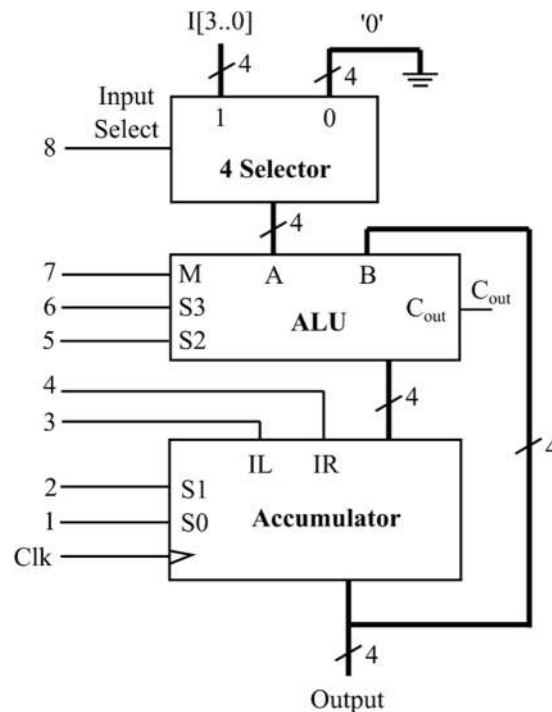
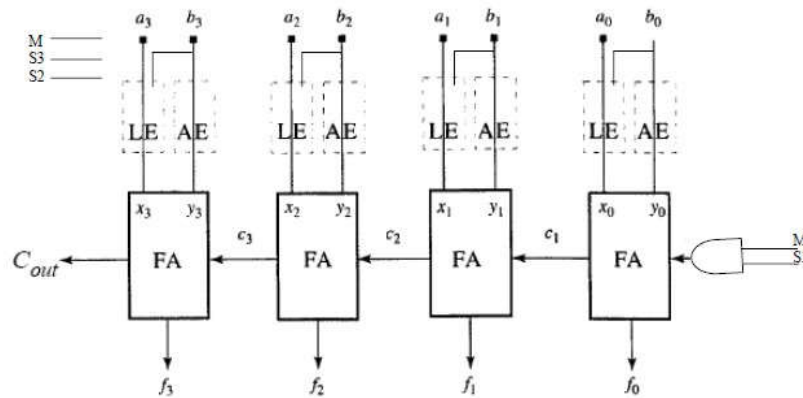
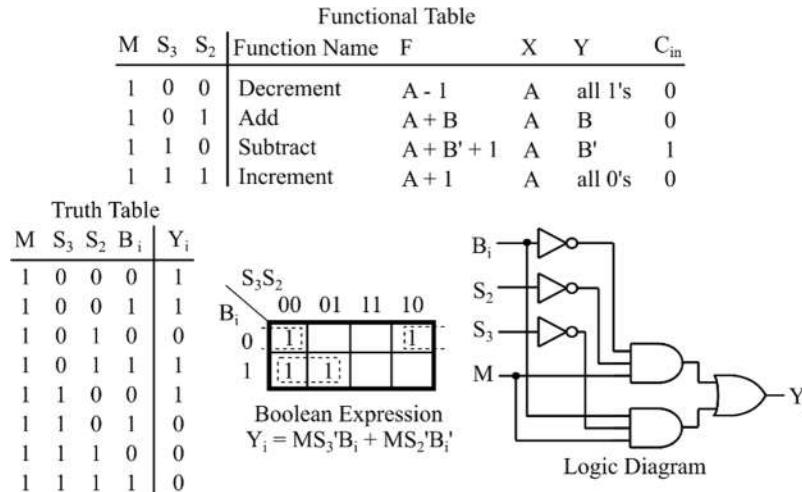
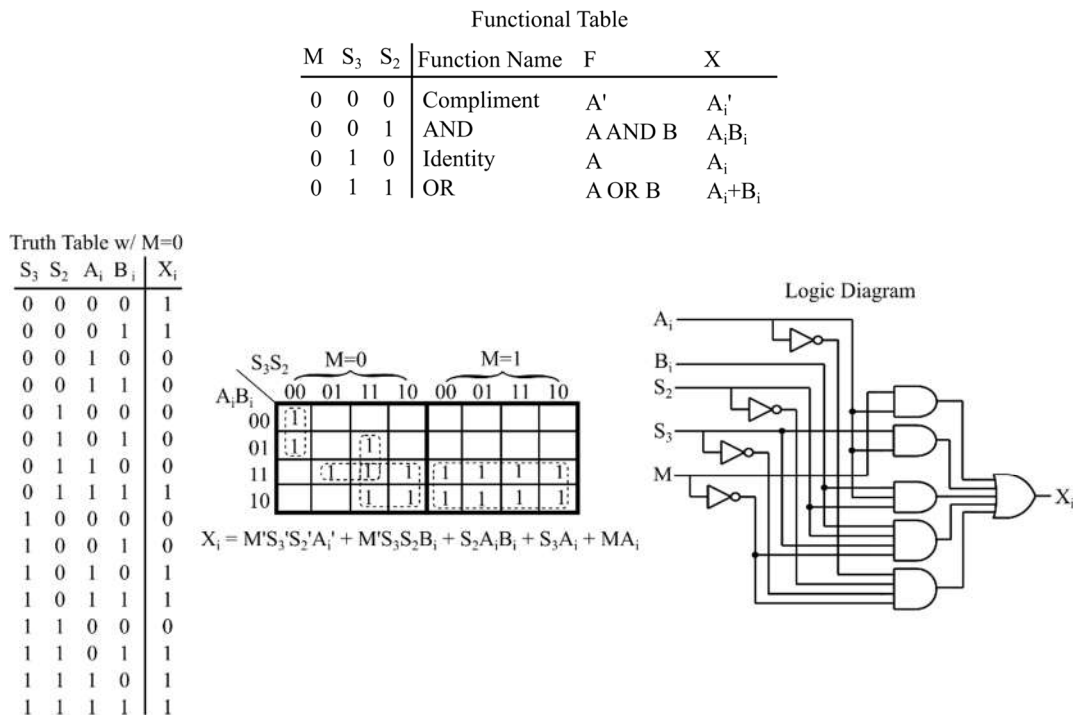

Figure 1: Top-level of registered ALU.
Figure 4. An arithmetic logic unit (ALU).
Figure 5: Arithmetic Extender (AE).
Figure 6: Logic Extender (LE).
For this lab, you will build a fully-functional registered ALU, like the one shown in Figure 1. This ALU performs a variety of mathematic operations on inputs and stores all results in a local register, the accumulator. Mathematic operations are always performed using the value in the accumulator as one operand and the "input" value as the other operand. The operations performed by the ALU will depend on the state of the control bits, (the bits labeled 1-8 in Figure 1). For the ALU discussed here, the control bits will allow the user to (see Figure 5, 6, and 7):
The specific operations that are implemented by an ALU depend on the functions required by the designer. Figures 4 through 6 show one possible design of an ALU, which extends the capabilities of a ripple carry adder by adding a little extra logic at the inputs. The logic is set up such that if the control input M is '1', the ALU performs a math operation (add, subtract, increment, decrement), and if M is '0', the ALU performs a logic operation (AND, OR, complement, or no-change).
An ALU performs many arithmetic operations, including add, subtract, increment, and decrement. This ALU is constructed from a ripple carry adder and some additional logic that modifies the inputs to the adder. Inputs are modified using a Logic Extender (LE), an Arithmetic Extender (AE), and some carry-in logic. The logic block FA stands for Full Adder and is a single-bit adder like you used in the 4-bit ripple-adder in an earlier lab. Let's say you wanted to extend the functions of this adder as shown in Figure 5 (assuming A and B are inputs to the ALU, and X and Y are inputs to the 4-bit adder), adding logic to allow it to decrement the value of input A by 1, to add inputs A and B, to subtract input B from input A, and to increment the value of input A by 1.
The Functional Table in Figure 5 shows what values would have to be given at inputs X and Y of the adder to allow it to produce the desired result. For example, $A-B=A+B'+1$ for 2's complement numbers, where B' is the one's complement of B. So if we wanted to subtract B from A when, we would need to present the 4-bit adder the A, B', and a C_{in} of 1 (giving A). The problem is to put together logic which allows the 1's complement of B (B') to be presented at input Y when the control bits. The logic needed to modify a single bit of B and present an appropriate value to the added (Y) is shown in Figure 5. This logic modifies B depending on the value of S3S2 to Decrement A, Add A+B, Subtract A-B, and Increment A.
The logic in Figure 5 makes up the Arithmetic Extender (AE) shown in Figure 4 – the little bit of extra logic added between the input B to the ALU and the input Y to the adder. Similar operations must be performed on the input A using what is called a Logic Extender (LE – Figure 4). Logic for the Logic Extender is shown in Figure 6. It allows you to perform the logic operations.
The one bit of logic we haven't given you is the logic needed to modify C_{in} (Figure 4). Note that the Functional Table in Figure 5 shows that specific values of C_{in} must be presented to the
In summary, a registered ALU consists of an arithmetic logic unit and an accumulator (Figure 1). The input to the ALU comes from and external bus (A) and the accumulator (B). Our ALU can add or subtract the inputs, add or decrement 1 from the input A, or can take the current value of the accumulator and shift it right or left by 1. The operation that is performed on any one clock cycle depends on the values of the select bits. The arithmetic operations are performed by modifying inputs to the ALU. The shift operations and load accumulator operations are performed using 1-bit selectors. Most of the logic needed to construct the registered ALU is given for you. A registered ALU like this one forms the basis of a microcomputer.